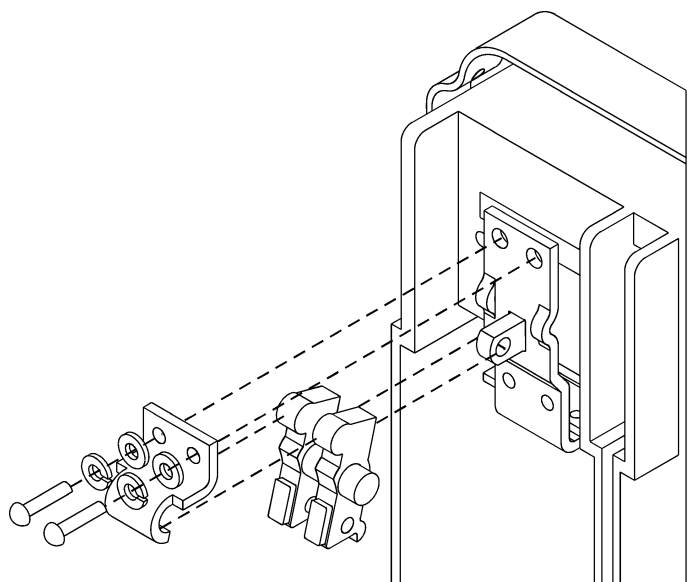

Figure 6-8. Replacement of stationary arcing contacts.
3. For replacement of stationary arcing contacts, as illustrated in Figure 6-8: